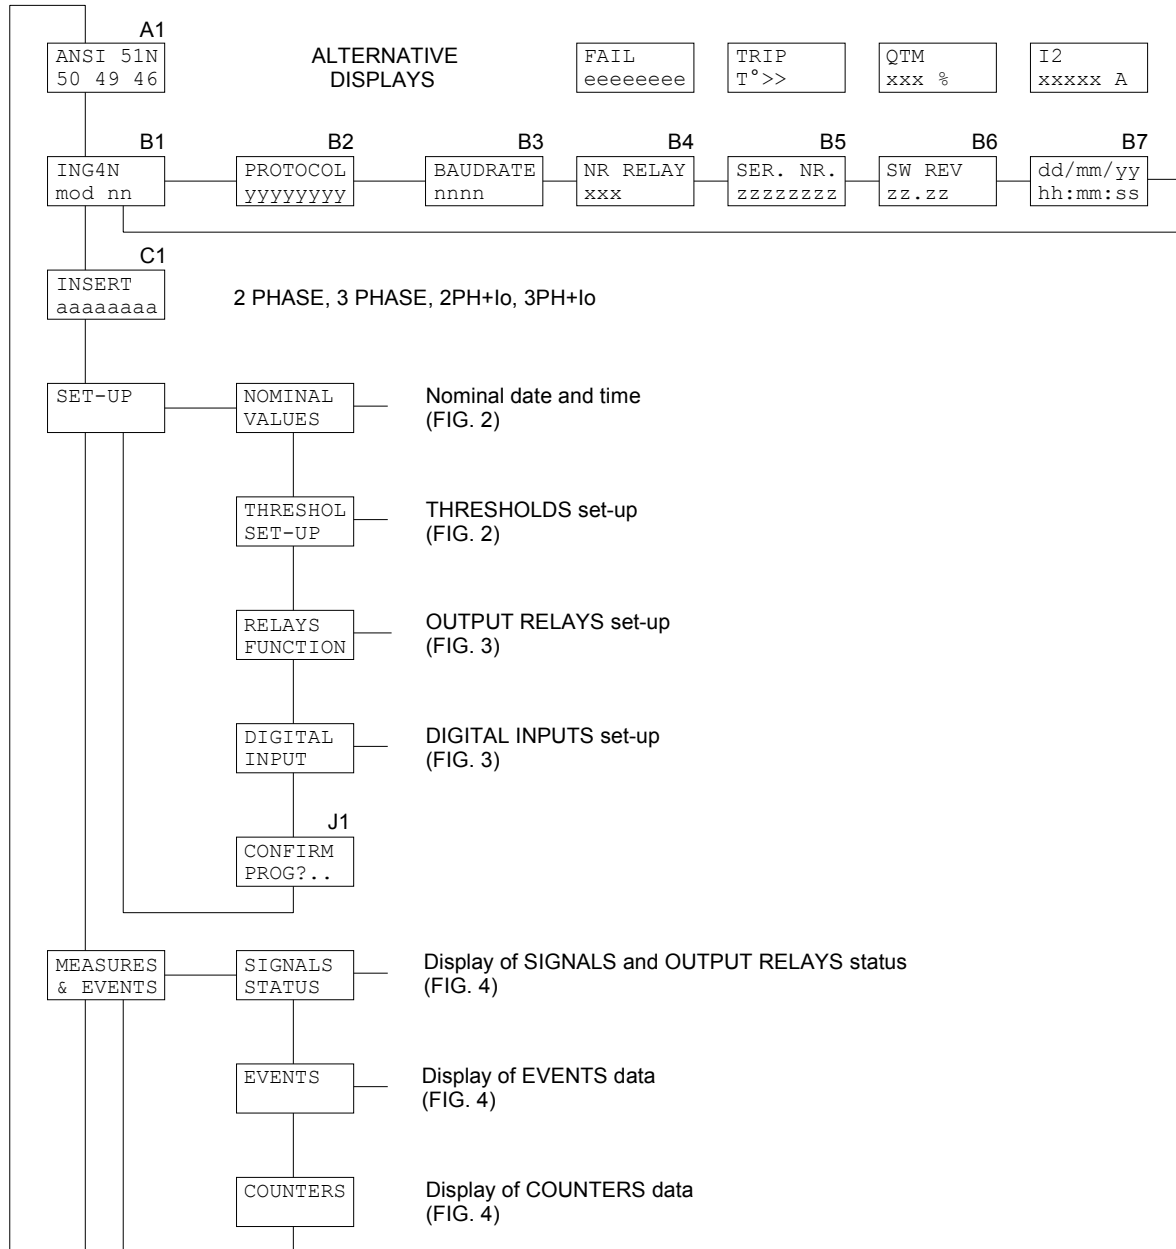

Figure 1
The programmable parameters are showed in Figures 1, 2, 3 and 4 at the following references:
- display on STANDARD MODE (Fig. 1, ref. A1 - par. 5.1)
The contents and the structure of the displayed messages are shown in figures 1, 2, 3 and 4; the references A1, B1, B2 etc. identify specific displayed messages in the figures.
### 5.3 Address and Time (fig. 1)
**5.4 Protection insertion (fig. 1)****C1 - INSERTION SELECTION (programmable)**